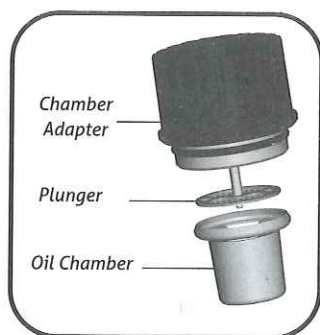

Figure-11
- Gently push together Oil Chamber and the Chamber Adapter by securely snapping into place (Figure-11).